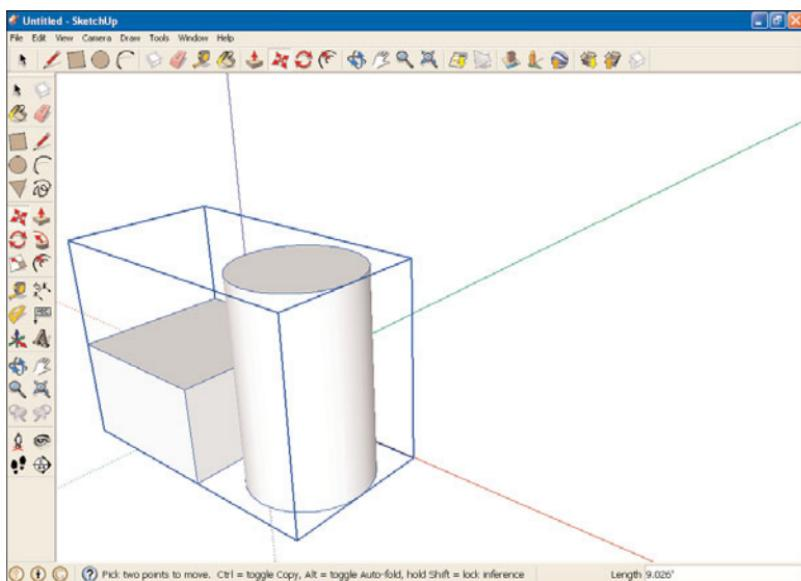

FIGURE 6.5 Moving the group.
2. Move the group to a new position, as shown in Figure 6.5.